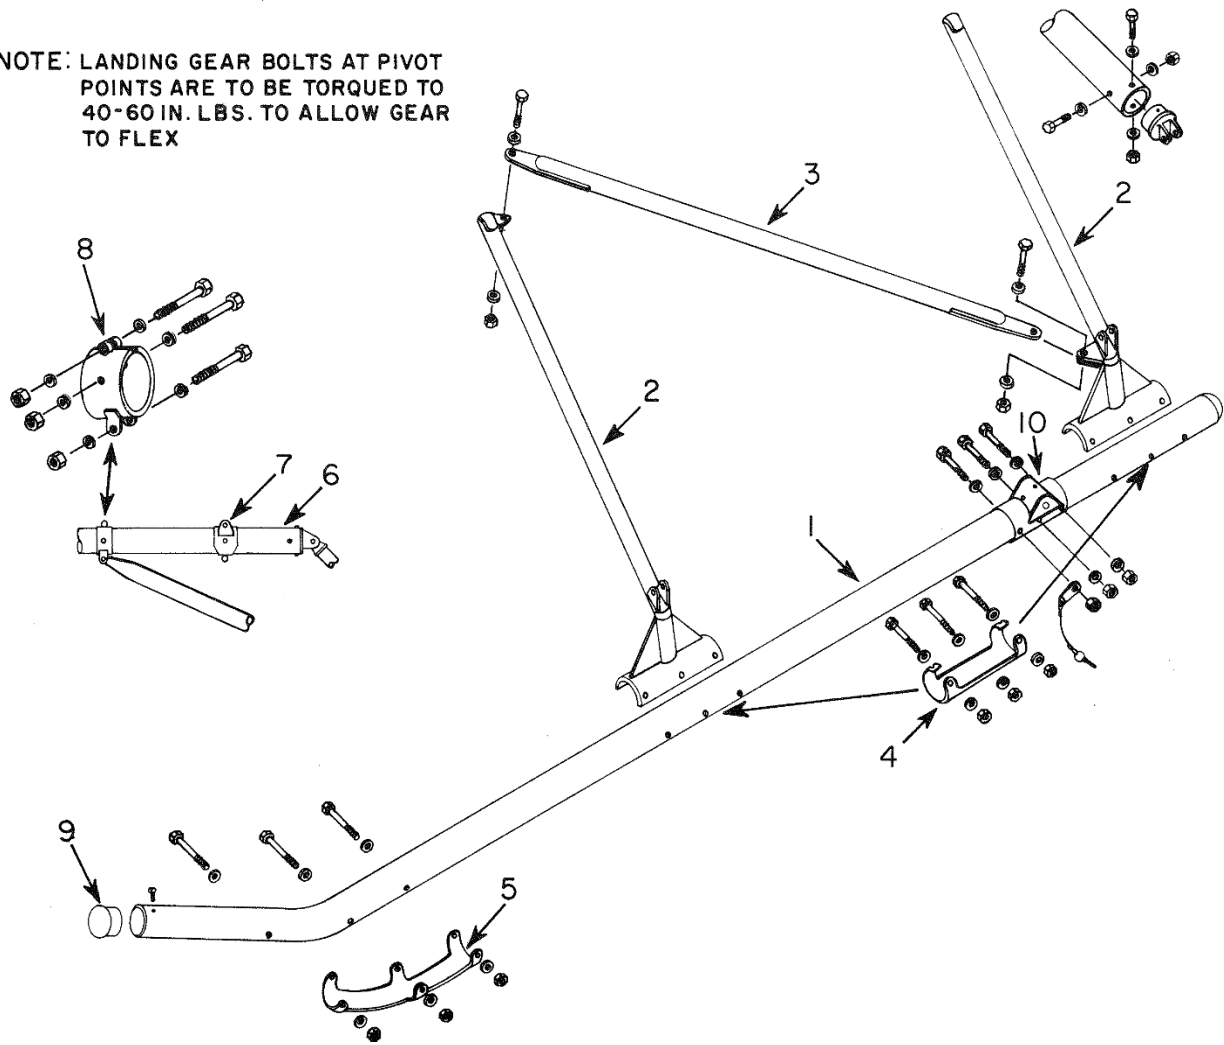

Figure 8-8. Landing Gear Assembly Breakdown
- (d) Remove individual landing gear items as follows: (See Figure 8-8)
2. Skid Shoes Replacement (See Figure 8-8)
- 4 Replace skid shoes (4) or (5) by removal and replacement of the attachment bolts (three forward, two aft) securing them to skid tubes.